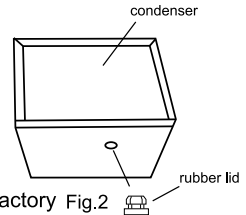

Fig.2
6. Let the rear of the air conditioner raiseslightly, the drain hole on the bottom canbe seen. Clog it by a black rubber stopper attached to the air conditioner In factory (see Fig.2)